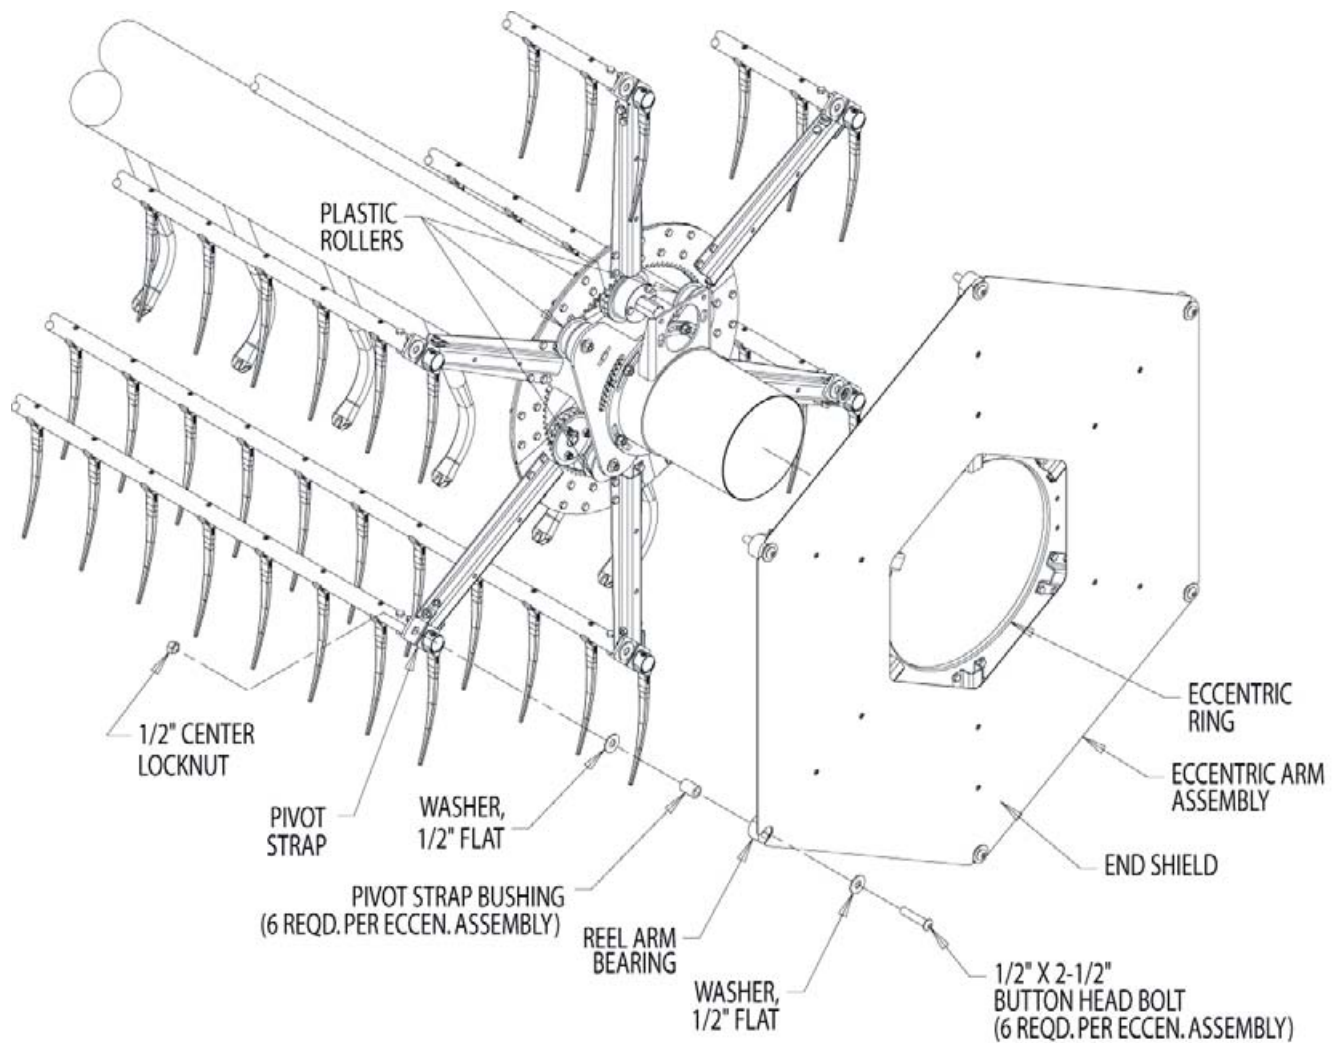

Figure 33, Eccentric arm installation
3. Press a pivot strap bushing into each plastic bearing on the reel arms of the eccentric arm assembly (Figure 33).